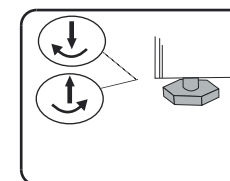

Fig. 1
**Step 4:** Rotate the two front levelers, provided below your refrigerator, clockwise to raise the front and anticlockwise to lower it (refer Fig. 1). The front should be slightly above the rear so that the door shuts gently when left open.